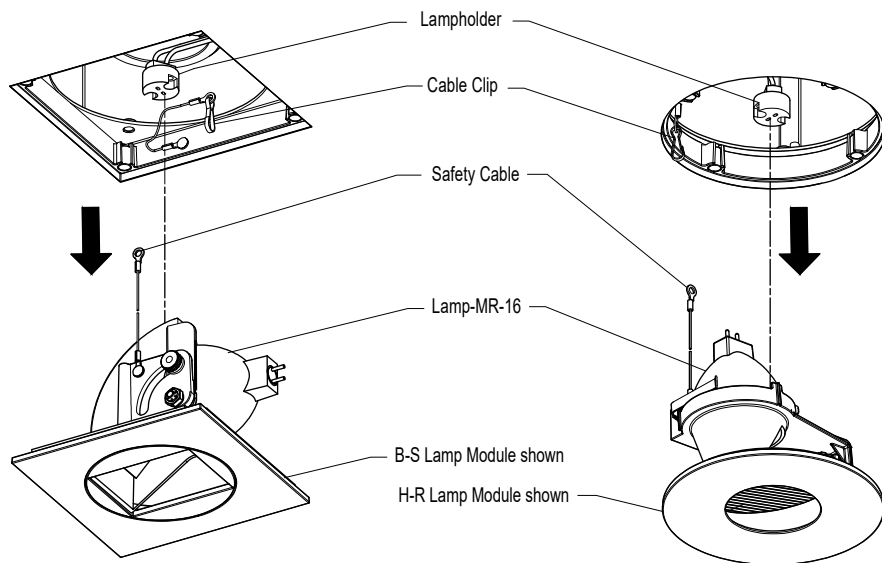

FIG 4.2 Remove Lamp Modules B & H
STEP 1 Remove Lamp Module B or H from Trim in Housing & pull lampholder from Lamp pins - **Fig 4.2.**
STEP 2 Detach Safety Cable to Cable Clip to fully remove Lamp Module from ceiling aperture- **Fig 4.2.**